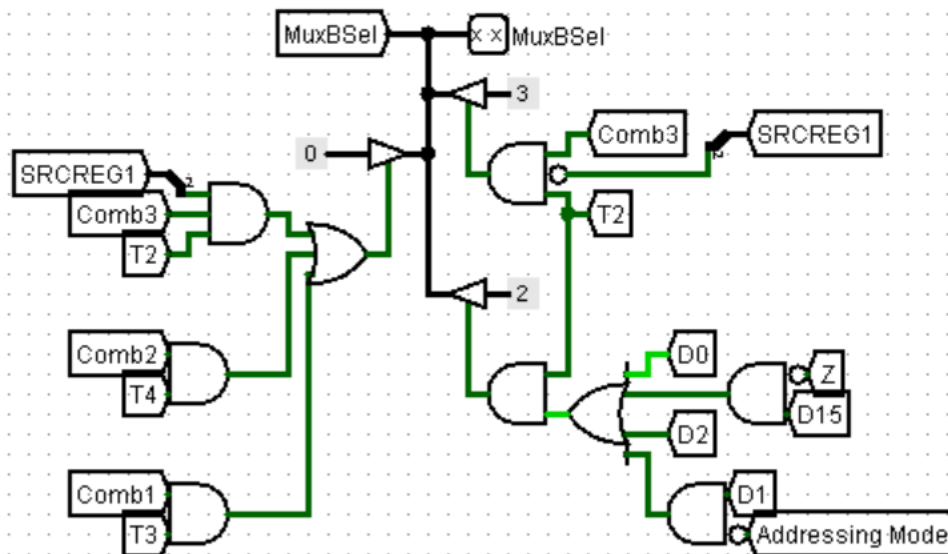

Figure 29: MUX B SEL in Control Unit
1. Since we already have the ADDRESS Field loaded to IR(during T0 AND T1), the only thing we need to do is to set MuxBSel in a way to make ARF access the ADDRESS Field. To do that, we will assign the MuxBSel to 10, if Z == 0 (See Figure 29).